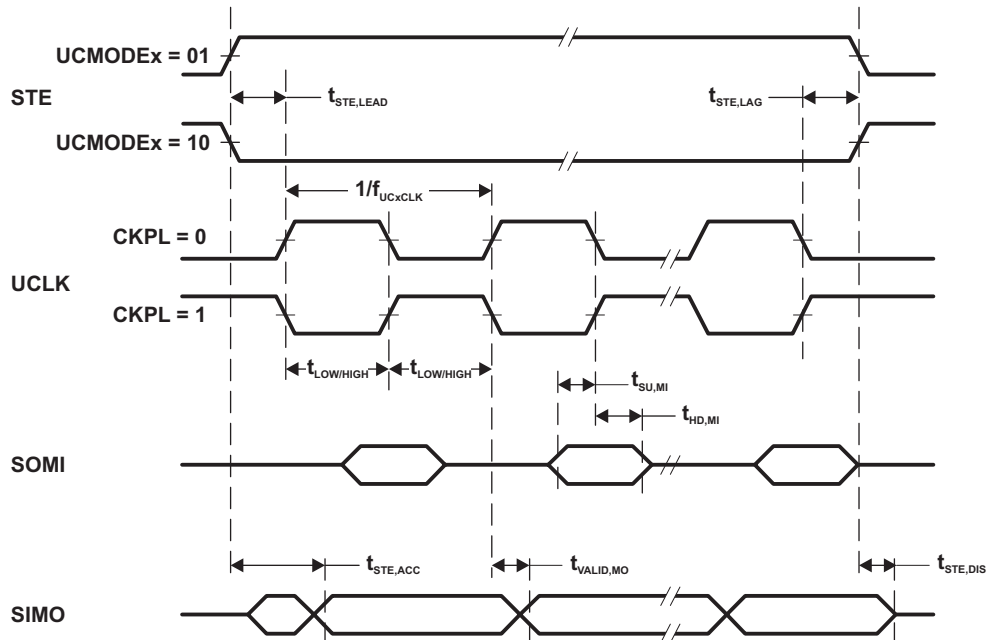
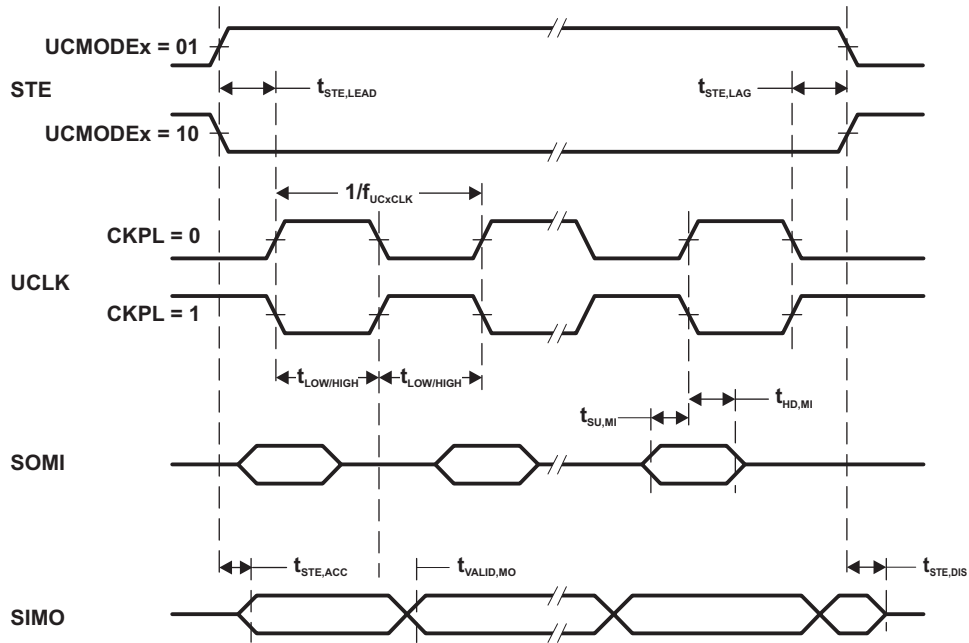

Figure 5. SPI Master Mode, CKPH = 0
Figure 6. SPI Master Mode, CKPH = 1
- (1) $f_{UCxCLK} = 1/2t_{LO/HI}$ with $t_{LO/HI} = \max(t_{VALID,MO(eUSCI)} + t_{SU,SI(Slave)}, t_{SU,MI(eUSCI)} + t_{VALID,SO(Slave)})$. For the slave's parameters $t_{SU,SI(Slave)}$ and $t_{VALID,SO(Slave)}$ see the SPI parameters of the attached slave.
- (2) Specifies the time to drive the next valid data to the SIMO output after the output changing UCLK clock edge. See the timing diagrams in Figure 5 and Figure 6.
- (3) Specifies how long data on the SIMO output is valid after the output changing UCLK clock edge. Negative values indicate that the data on the SIMO output can become invalid before the output changing clock edge observed on UCLK. See the timing diagrams in Figure 5 and Figure 6.